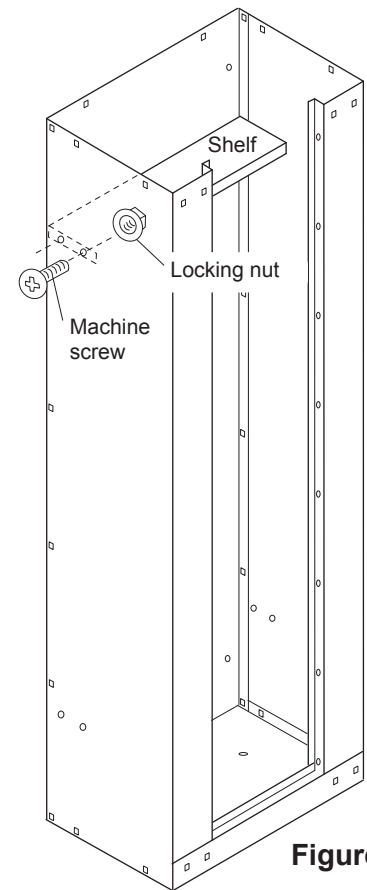

Figure 3
Use the top set of holes in the side panels and assemble the shelf with (4) machine screws and locking nuts. (See Figure 3)